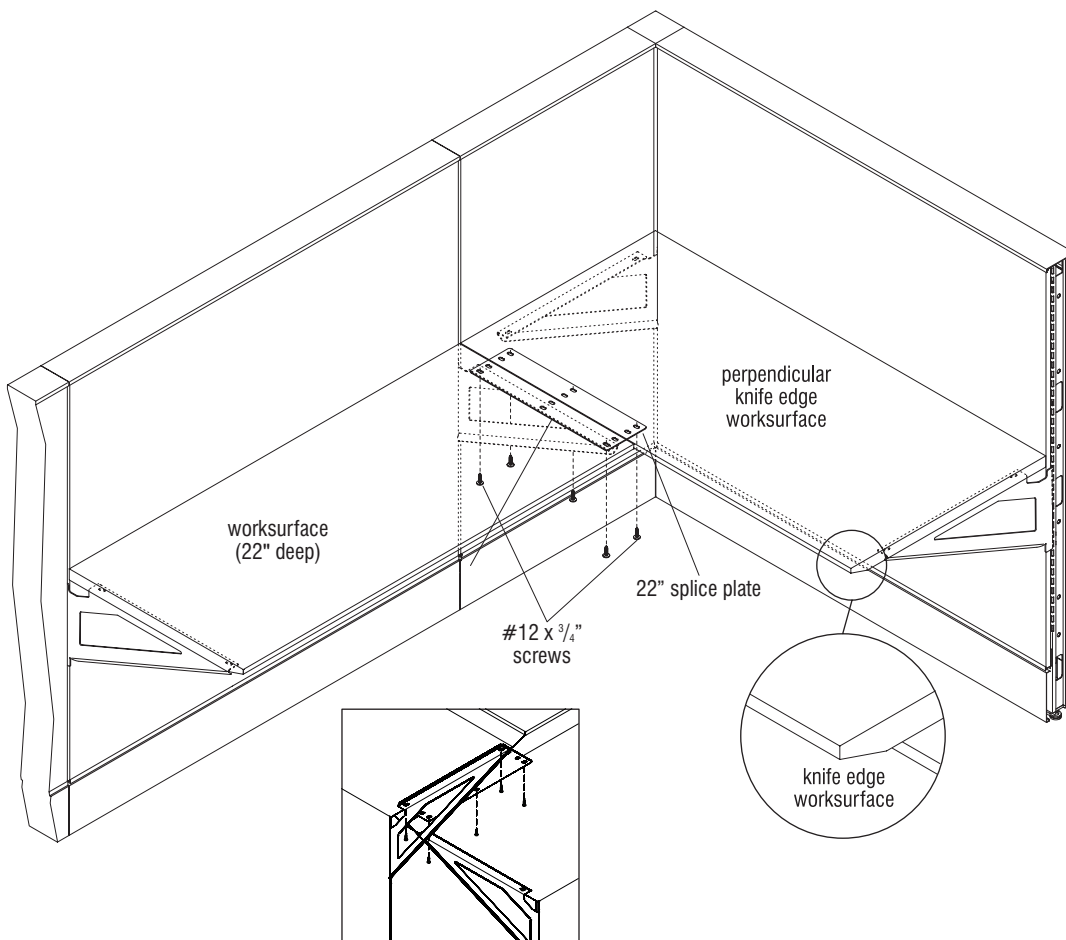

Figure 5 - Perpendicular 22-24" Deep Worksurface Connections with Knife Edge
3. Where the two adjoining worksurfaces meet at the cantilever bracket, slide a 22" splice plate between the cantilever and the pair of worksurfaces. Align the outermost mounting holes of the splice plate to the mounting holes of the cantilever bracket such that most of the 22" splice plate extends beneath the adjoining knife edge worksurface that it must support. Secure with two #12 x 3/4" screws through the cantilever bracket, the 22" splice plate and into the worksurface. Take care to not over-tighten screws (Figure 5).
4. Using the far-side holes of the 22" splice plate as a template under the adjoining surface, take care to drill three 1/8" diameter holes to not more than 1/2" deep in the underside of the worksurface at the mounting hole locations. Insert and tighten three #12 x 3/4" screws. Take care to not over-tighten screws (Figure 5).
5. Tighten all remaining screws to secure cantilever brackets to underside of worksurfaces. Take care to not over-tighten screws (Figure 5).